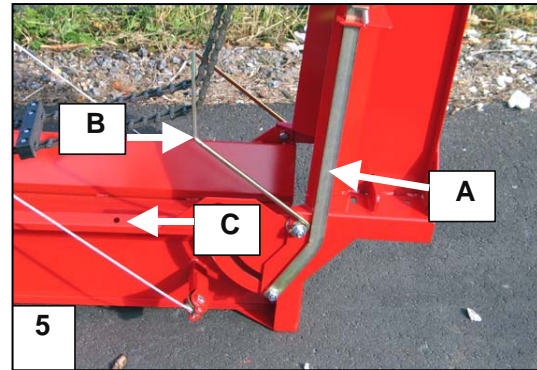

Fig. 5. Unfolding the conveyor 2/2
7. Remove the support bar B for the conveyor chain (Fig. 5) and attach it to the holes C at the edge of the conveyor.
2. Lower the conveyor to the ground and connect the support bar B for the conveyor chain, Fig. 5.